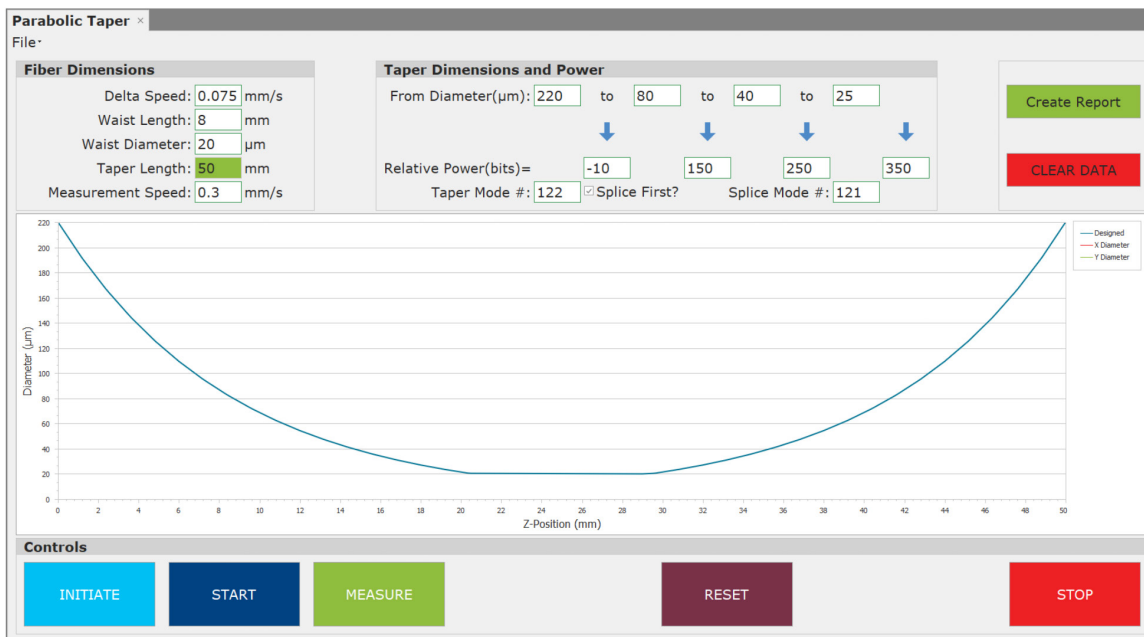

Figure 35 – 220-20 μm Parabolic Taper with Parameters Highlighted
- **From Diameter to Relative Power:** The syntax of these lines follows the following logic: In Figure 35, the line begins From Diameter 220 to 80 with an arrow pointing to -10 in the **Relative Power** row. This means that, as long as the measured diameter of the fiber at the waist is between 220 and 80, relative power will be -10. The pattern continues to mean that between 80 μm and 40 μm, relative power will be 150; between 40 μm and 25 μm, relative power will be 250, and below 25 μm the relative power will be 350. The power is relative to the calibrated power of the splice mode.